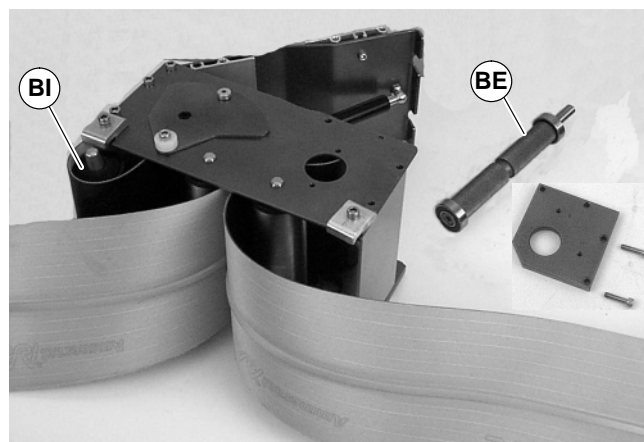

Figure 29
- For 5" (127 mm) or wider conveyor, depress both sides of spring-loaded shaft and remove pulley (BI of Figure 29).